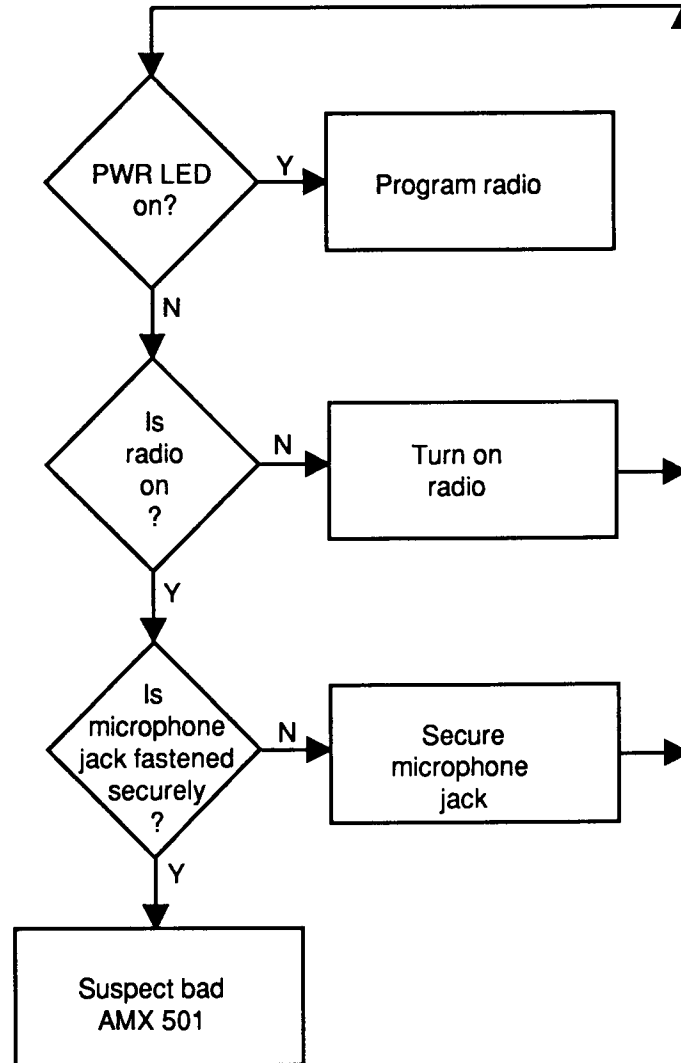

Figure 1. Mobile Radio Power Flowchart
- Use figure 1 when you try to program a mobile radio and the power LED on the AMX 501 does not light.